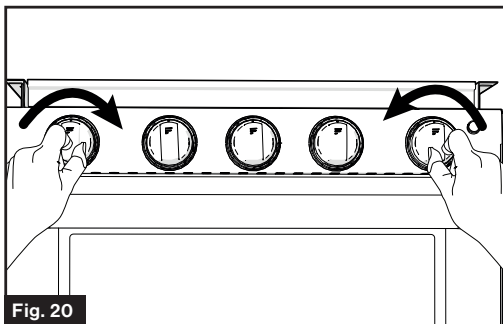

Fig. 20
3. Keep the oven control knob pushed in and rotate the ignition knob clockwise repeatedly until the oven burner is lit. (Fig. 20)